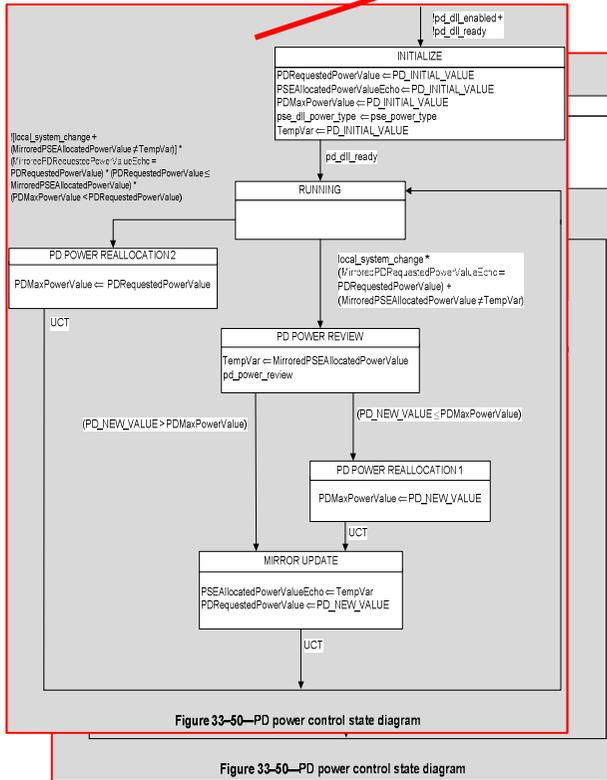

Figure 33-50—PD power control state diagram
- Preferred with the same Figure 33-49 and Figure 33-50
- Figure 33-49 and Figure 33-50 managing the total power:
- Figure 33-49 and Figure 33-50 are not addressing power policing.
- The existing Figure 33-49 and Figure 33-50 may support dual-signature PD if:
- What matters is to meet the minimum requirements of Figure 33-49 and Figure 33-50 in order to get the same quality of performance as with single-signature PDs.